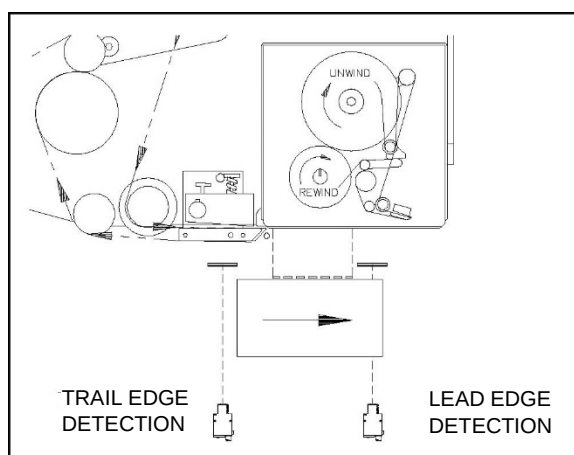

Figure 47 Product Detector Position
1. With the [POWER] ON (I) and the machine OFFLINE, align the product with the applicator, so that the label will be applied in the correct position.
3. Position the product detector so that it is even with (or slightly upstream from) the leading edge of the product (or the trailing edge if you set the PRODUCT SENSOR EDGE to TRAIL). See Figure 47. Remove the product.